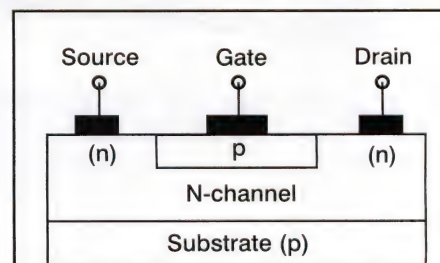
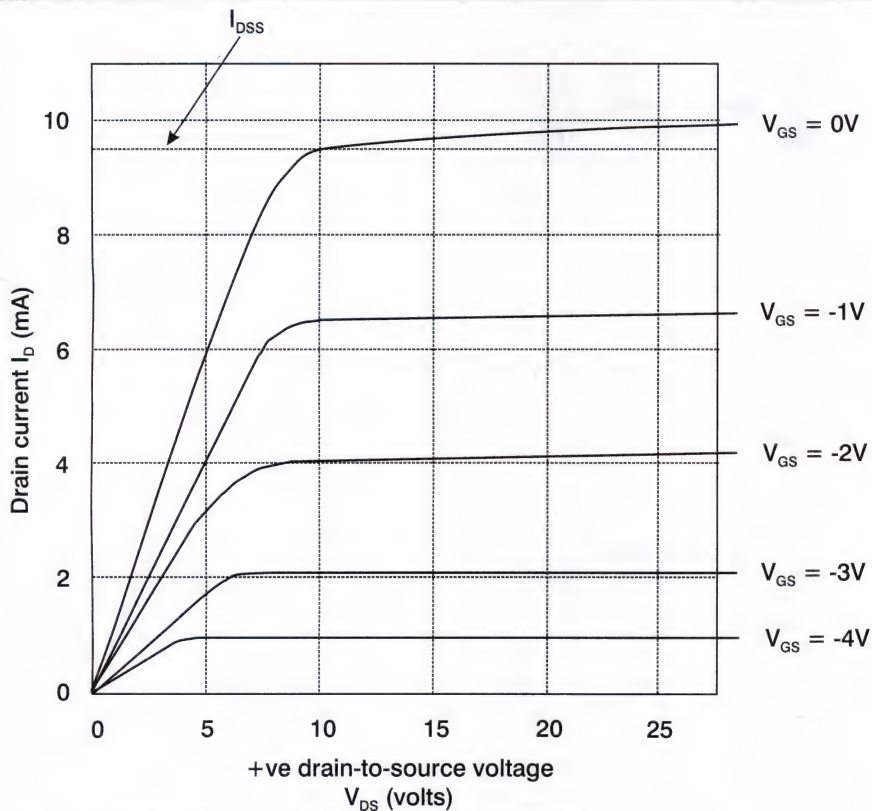
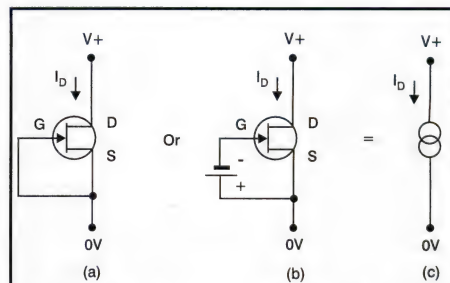

Figure 3. Construction of n-channel JFET.
Figure 4. Idealised transfer characteristics of n-channel JFET.
Figure 8. An n-channel JFET can be used as a constant-current generator.
Figure 3 shows the basic form of construction of a practical n-channel JFET; a p-channel JFET can be made by transposing the p and n materials. All JFETs operate in the depletion mode, as already described. Figure 4 shows the typical transfer characteristics of a low-power n-channel JFET, and illustrates some important features of this type of device. The most important characteristics of the JFET are as follows.
(4). Note in Figure 4 that, for each V_{GS} value, drain current I_D rises linearly from zero as the drain-to-source voltage (V_{DS}) is
Also note in Figure 4 that when V_{DS} is above the knee value the I_D value is controlled by the V_{GS} value and is almost independent of V_{DS} , i.e., the JFET acts as a voltage-controlled current generator. The JFET can be used as a fixed-value current generator by either tying the gate to the source, as in Figure 8(a), or by applying a fixed negative bias to the gate, as in Figure 8(b). Alternatively, it can (when suitably biased) be used as a voltage-to-current signal amplifier.